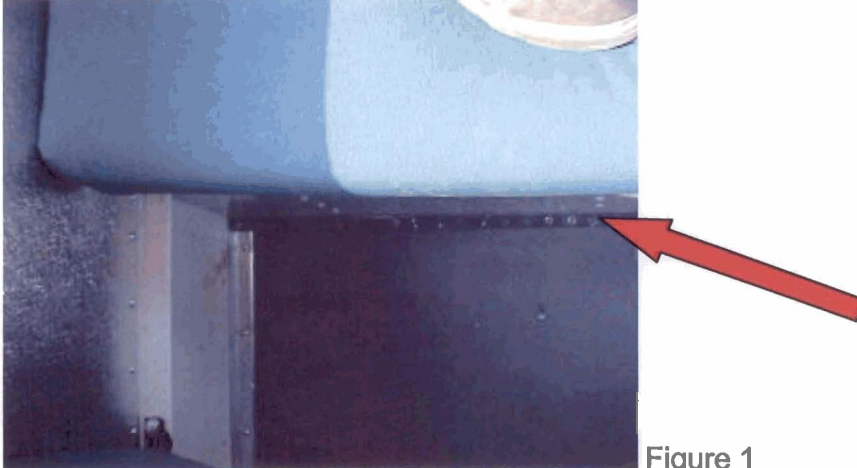

Figure 1
4. Place a full length retaining bar (P/N 2592739C1) on the floor along the right hand side of the davenport. The bar must be placed against the outer wall and as close to the vertical face of the davenport closeout as possible. This is to ensure that the screws pass through the retaining bar and davenport closeout flange as well as the substructure under the floor. See Figure 1.